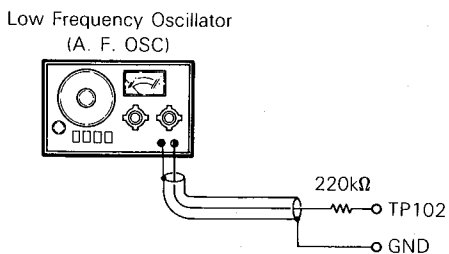
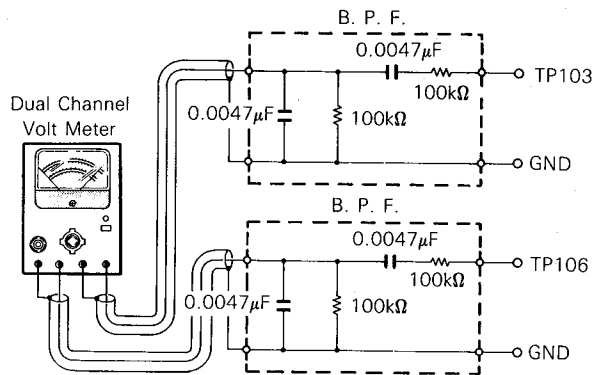

Fig. 24
Fig. 25
- (1) Connect the audio frequency oscillator with 220k ohm resistor to TP102 and GND. (Fig. 24)
- (2) Set the audio frequency oscillator for 800Hz, 200mV.
- (3) Connect AC voltmeter to B.P.F. (Fig. 25)
- (4) Insert the Philips test disc # 5 and place the unit in the play mode on track number 8.
- (5) Connect B.P.F. to test point TP103 and GND and then to TP106 and GND. Measure the output level at each point. (Fig. 25)
- (6) Adjust VR102 so that the voltage difference between TP103 and TP106 becomes 8dB $\pm 3dB$. (TRG - TRC = 8dB)
- (7) Check tracking offset in step 6-9 and repeat step 6-9 and step 6-10 if necessary.